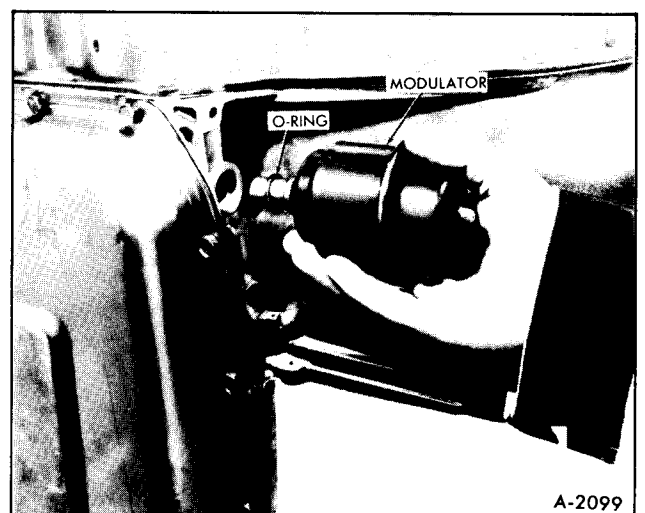

Figure 24—Removing Vacuum Modulator
2. Remove modulator assembly and O-ring from transmission case. Remove and discard O-ring from vacuum modulator, Figure 24.